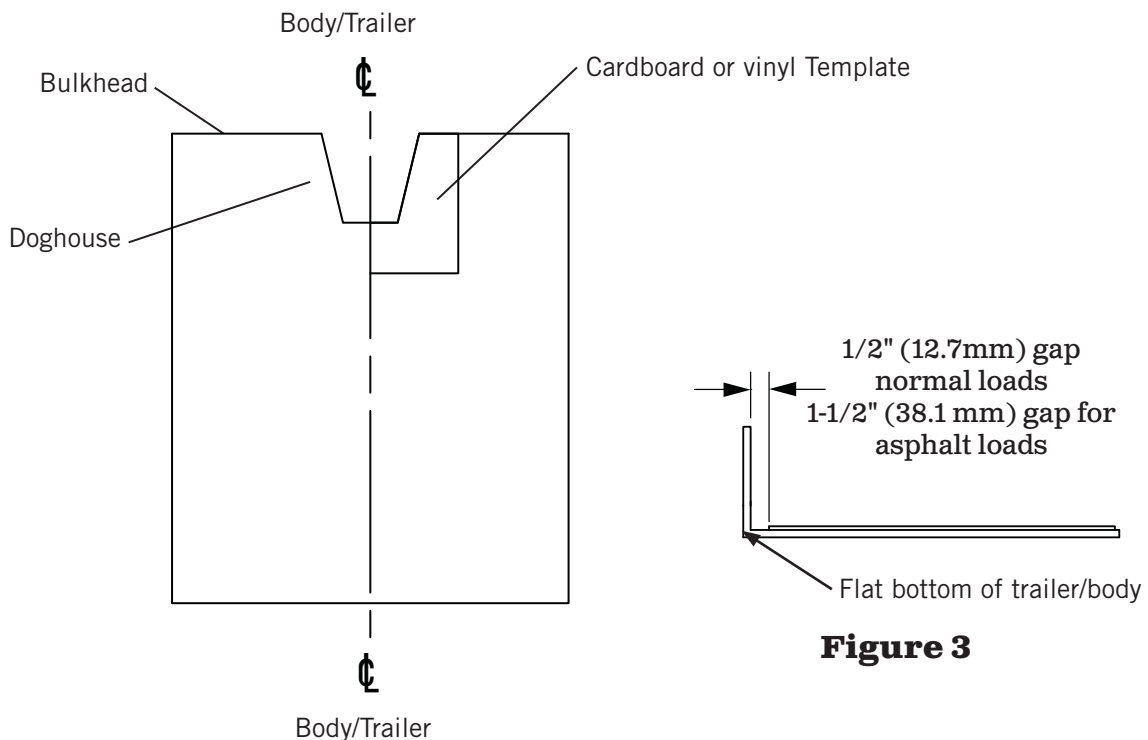

Figure 2
- 2) See Figures 2, & 3. Make a cardboard template for one half of the doghouse (flipping the template over should match the other side of the doghouse). For normal loads the template should be spaced 1/2" (12.7mm) doghouse/bulkhead and for asphalt loads the template should be spaced 1-1/2" (38.1 mm) from doghouse/bulkhead.